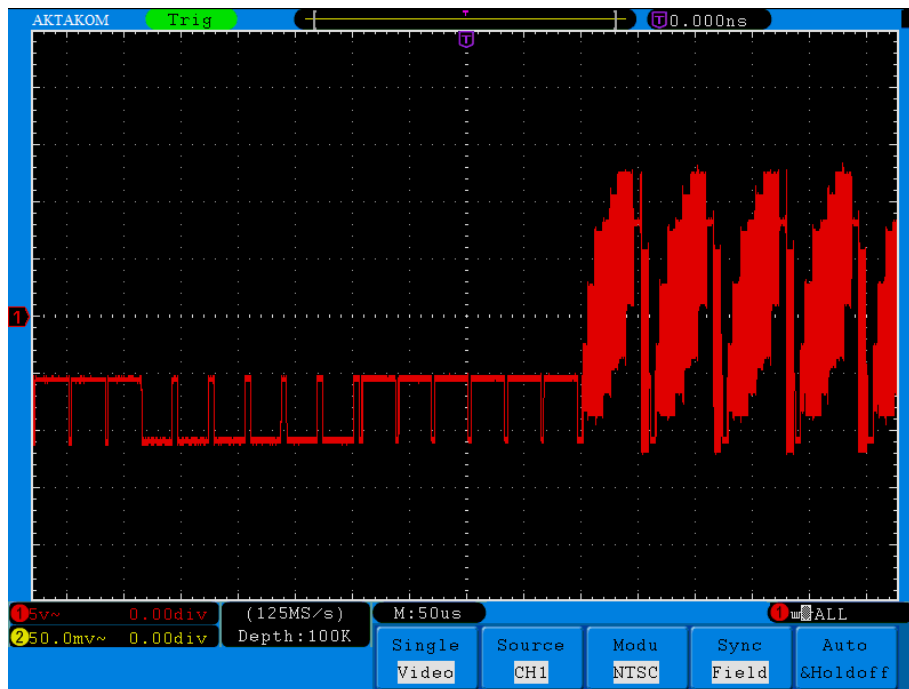

Fig.6-7 Waveform Obtained from Video Field Trigger
- (1) Press the **Trigger Menu** button to display the trigger menu.
- (2) Press the **H1** button to display the trigger type menu.
- (3) Press the **F1** button to choose **Single** for Type.
- (4) Turn the **M** knob to choose **Video** as the mode.
- (5) Press the **H2** button to display the Source menu.
- (6) Press the **F1** button to choose **CH1** for Source.
- (7) Press the **H3** button to display the Module menu.
- (8) Press the **F1** button to choose **NTSC** for the modulation.
- (9) Press the **H4** button to display the sync menu.
- (10) Press the **F2** button to choose **Field** for Sync.
- (11) Turn the **VOLTS/DIV**, **VERTICAL POSITION** and **SEC/DIV** knobs to obtain a proper waveform display (see **Fig.6-7**).